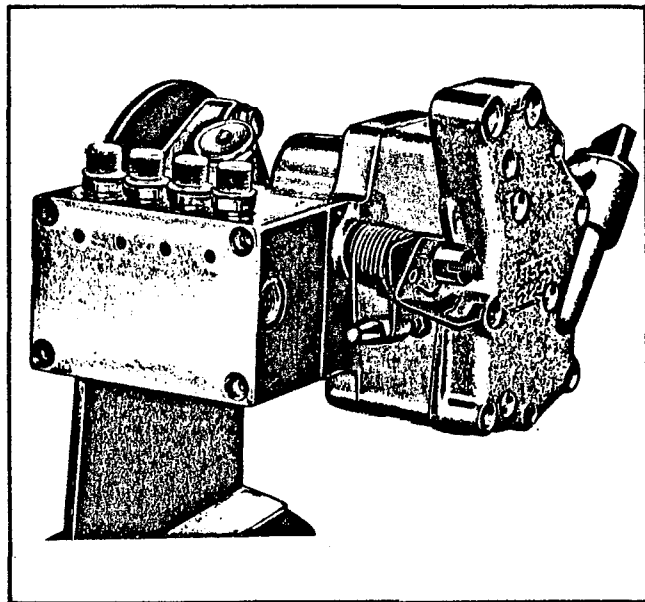

Fig. 26 - Injection Pump on Support Plate 8017350
- Install the pump on support plate 8017350 (fig.26) and lock the latter in a vice.
- Unscrew the mounting screws (107- one of them bears a guarantee seal with the Kugelfischer stamp or the Lancia one, if the pump has already been disassembled at a Lancia Branch), then remove the hydraulic head (101) and the relevant gasket (53) (to facilitate the removal, moisten it with a brush dipped in trichloroethylene); during this operation, apply a slight pressure on the head against the thrust of the inner springs, so as to prevent the plungers (79) from sliding off.